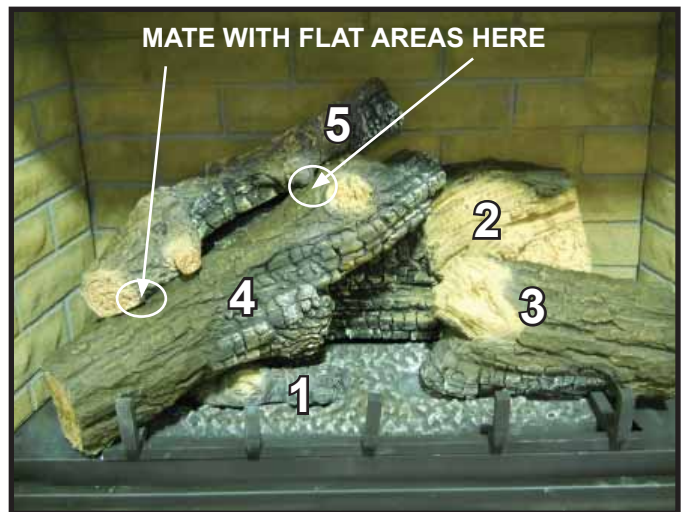

**Figure 4.**
**LOG #4 (SRV2120-704)** Place log #4 so that the right end sits in the notch or flat spot of log #2. The left end of the log will sit on the left grate tine and also contact the vertical portion of the grate tine as shown in Figure 4. The "burned" part of the log should be pointed downward.